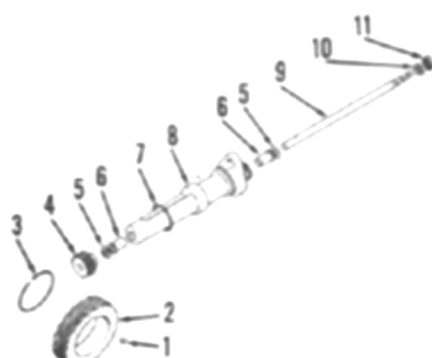

Fig. 90 - Exploded view of speedometer drive assembly used on Model Hydro 84. Items (4 through 11) are removed from right side of rear frame.
On Model Hydro 84, remove retaining cap screw and withdraw speedometer drive assembly (Fig. 90) from right side of rear frame. Unseat snap ring (12-Fig. 91) from its groove in front of speedometer drive gear (11). Move